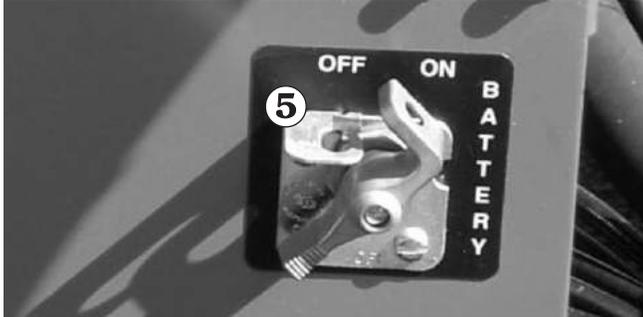

Figure 9.4
1. Check to be sure the **Battery** switch ⑤ is ON. (See Figure 9.4)
4. If the **Battery** Switch ⑤ (see Figure 9.4), **Emergency Stop** ⑥, and **SELECTOR** switch ⑦ (see Figure 9.5) are all set correctly, and the engine will not start from the platform control box, set the **Selector** switch ⑦ to ground (down) and try to lower the platform from the ground control box.